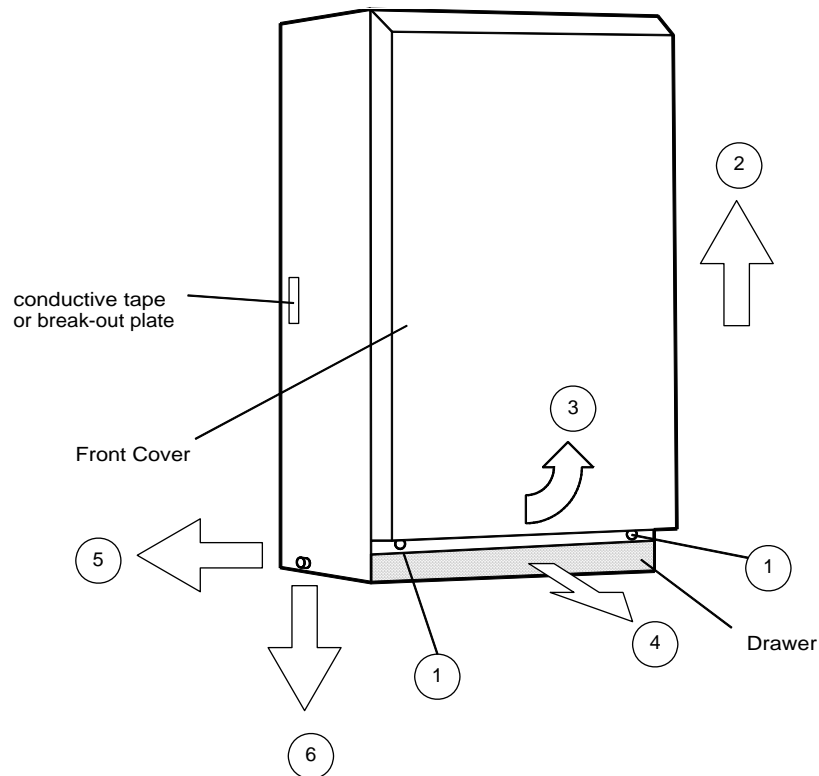

Fig. 4–4 Removal of the Front Cover and the Drawer
- Open the drawer by pulling it toward you (4).
- Release the drawer by pulling the left or right hand side of the drawer down as indicated in Figure 4–4 (5) and remove the drawer (6). The drawer is hinged by the two screws on its sides. These do not need to be removed to take the drawer out. Replace the two front cover screws so that they do not get lost.